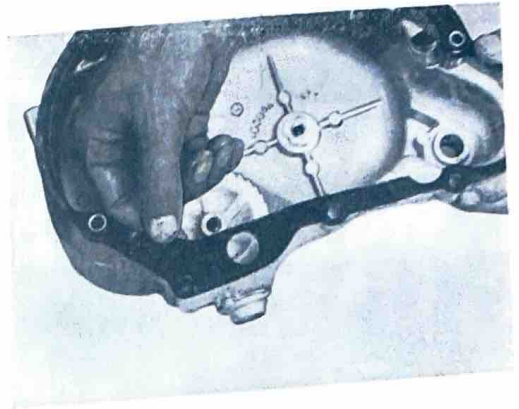

Fig. 3-8-5
- d. Replace the crankcase cover gasket, if damaged (Fig. 3-8-5)